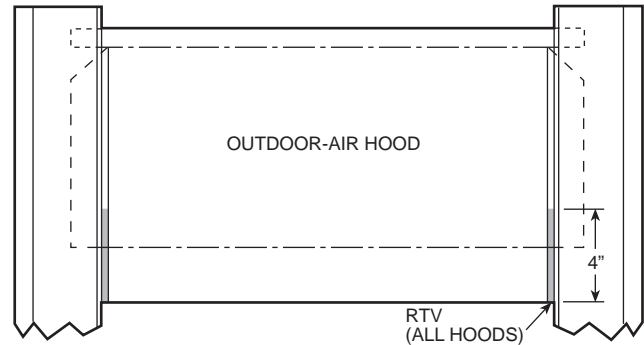

Fig. 30 — Outdoor-Air and Economizer Hood
5. Apply a bead of RTV or similar sealant to corner of each hood at pivot point to prevent water leaks. See Fig. 30.
6. Apply a bead of RTV or similar sealant to corner of economizer hood at pivot point to prevent water leaks. (See Fig. 30.)
5. Apply a bead of RTV or similar sealant to corner of economizer hood at pivot point to prevent water leaks. (See Fig. 30.)